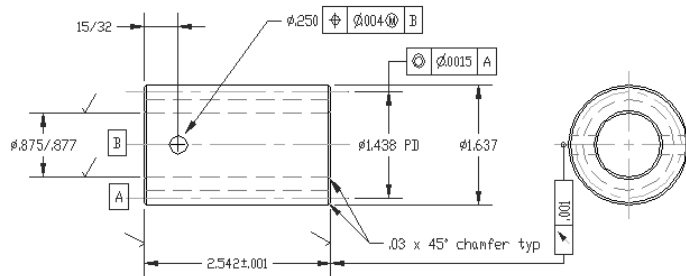

**Figure 15-41:** The drawing with the added geometric tolerance frame.
8. Save your drawing. It should look like Figure 15-41.